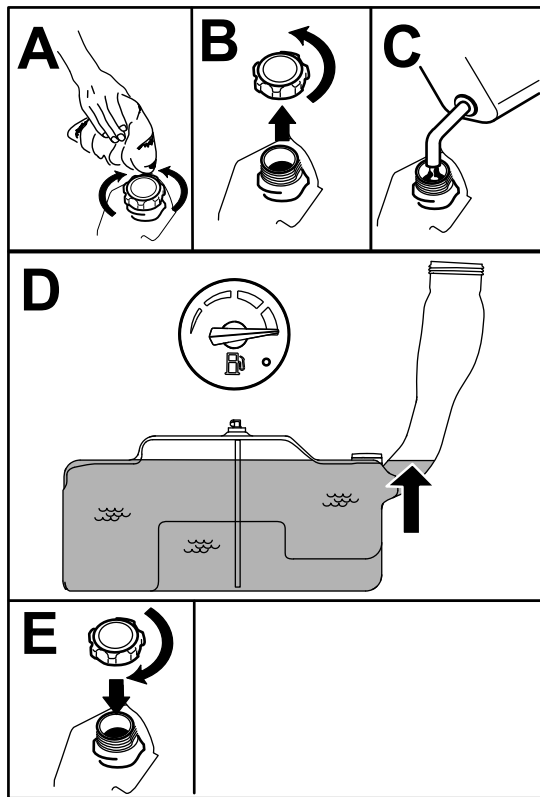

Figure 7
- Fill the fuel tank until the fuel gauge reads at the full mark (Figure 7). Do not fill the fuel tank completely full.